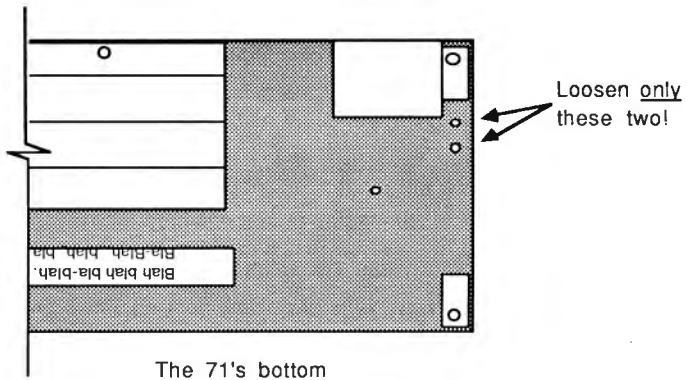

Figure 9-7
4) Notice the three remaining tiny brass screws on the surface facing you. Using the flathead jeweler's screwdriver, loosen **ONLY** the two which are clumped together. See Fig. 9-7.